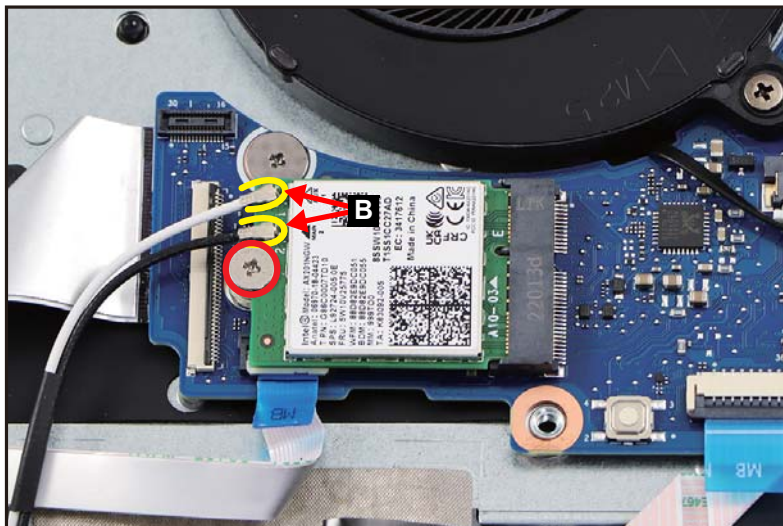

Figure 1-15. WLAN Module Removal
2. Disconnect the WLAN antennas cables from the WLAN module connectors (B) (Figure 1-15).
3. Remove one (1) screw securing the WLAN module (Figure 1-15).